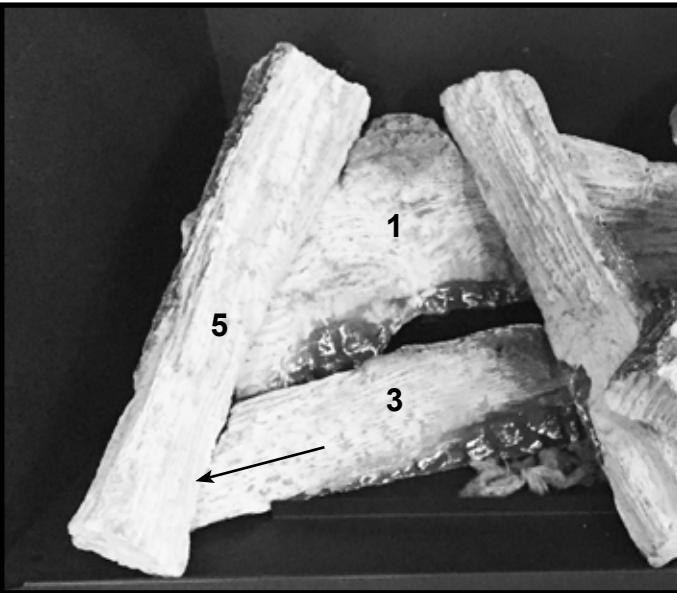

Figure 10. QUARTZ32: Install Top Left Log
- QUARTZ32 ONLY:** Locate and install Top Left Log (5). This Log does not have any “burn out” features painted on the log. The “left” end of this log will rest on the “left” side of the Left Front Base Log and the “right” end will rest on the “left” end of Left Rear Base Log. See Figure 10.